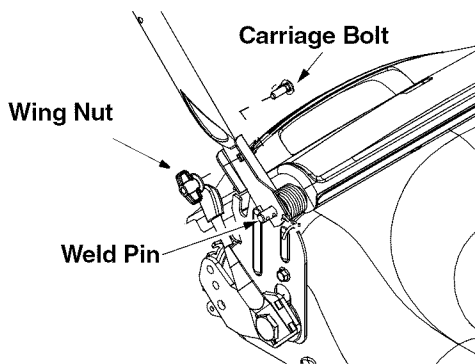

Figure 4
- For shipping purposes, the hairpin clip is placed in the outer hole of the weld pin on the lower handle. Remove the hairpin clip from the outer hole of the weld pin. See Figure 4.
- Using a pair of pliers, insert the hairpin clip into the inner hole of the weld pin. Repeat on other side. See Figure 4 .